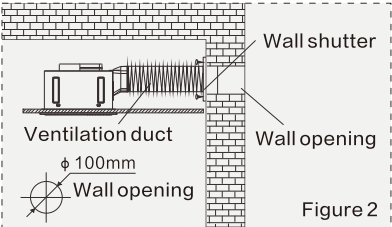

Figure 2
- For users installation on the wall above the second floor (including the second floor), please follow Figure 2.